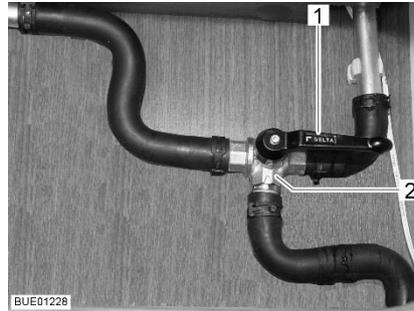

Fig. 141 3-way valve
- Set the lever (Fig. 141,1) of the 3-way valve (Fig. 141,2) parallel to the straight flow direction (Fig. 141).
- Set the lever (Fig. 141,1) of the 3-way valve (Fig. 141,2) transverse to the straight flow direction.